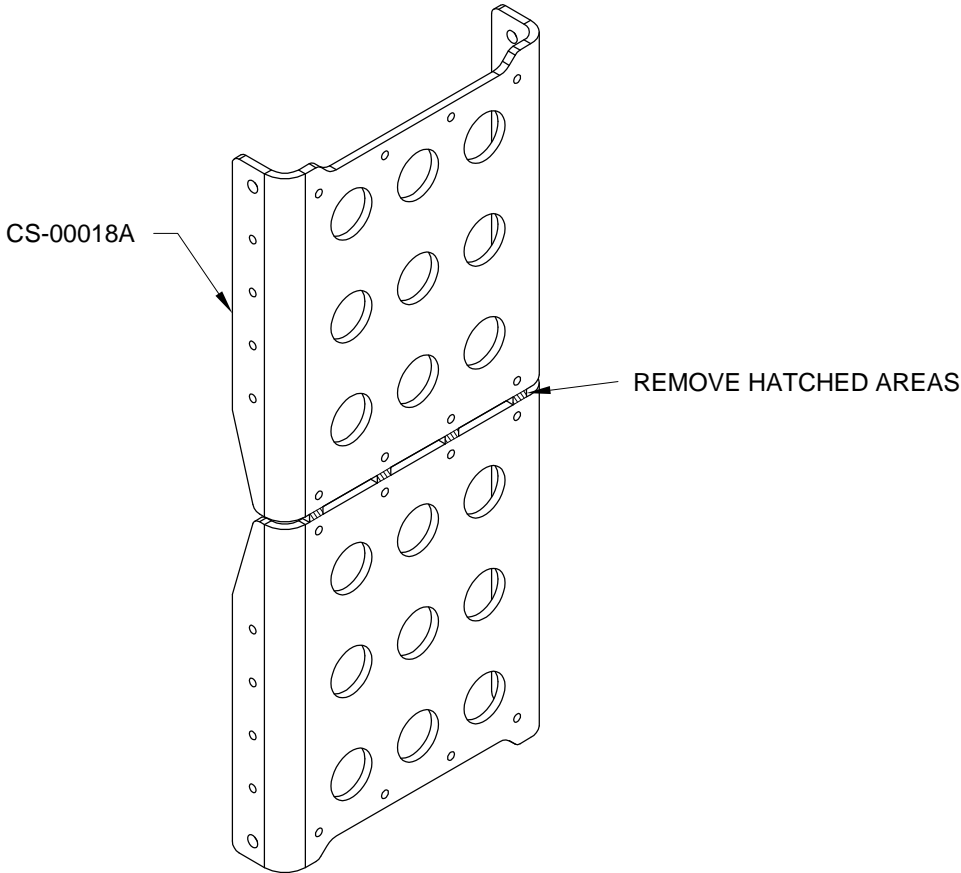

FIGURE 1: BRAKE PEDAL PADS
Step 1: Separate the four CS-00018A Brake Pedal Pads. See Figure 1.